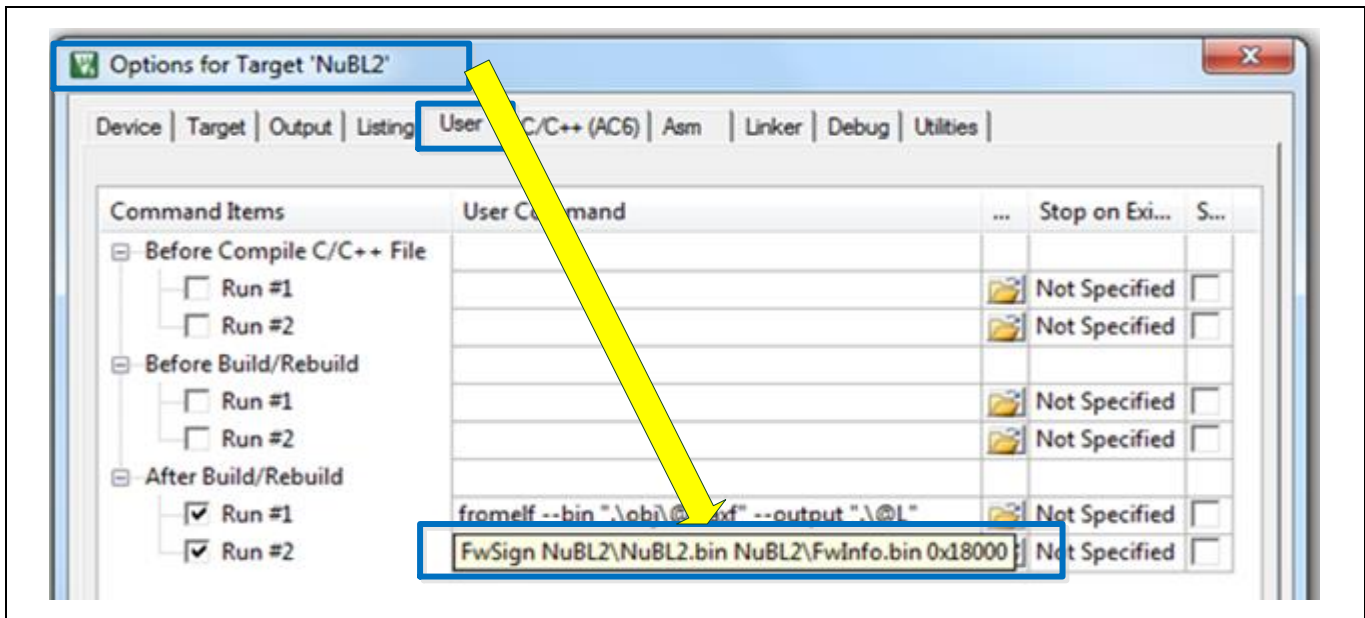

Figure 5-9 Configure FwSign.exe in NuBL2 Project
3. Open "After Build/Rebuild" in the "Options" and configure the parameters of FwSign for generating the NuBL2 firmware information as shown in Figure 5-9.